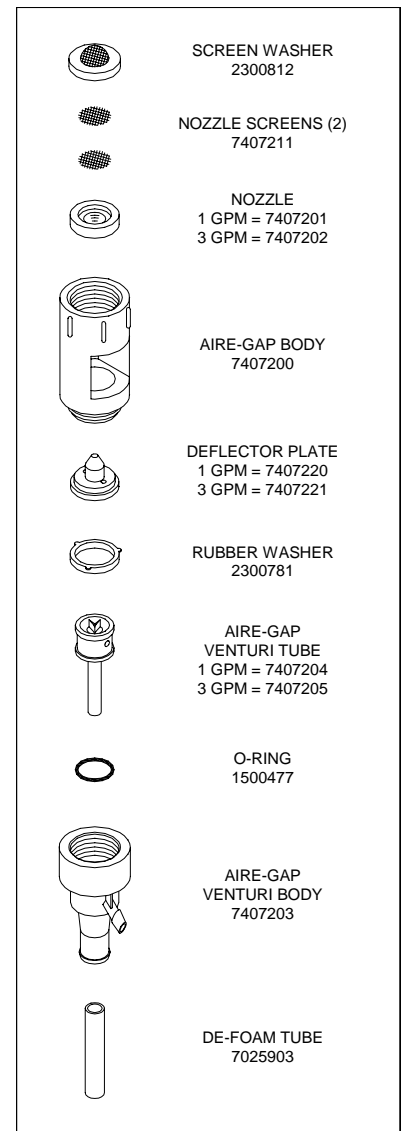

Figure 4
- (1) Disconnect tubing from venturi body.
- (2) Remove Aire-Gap assembly from water valve.
- (3) Remove existing nozzle, deflector plate, and venturi tube by disassembling the Aire-Gap — see Figure 4.
- (4) Reassemble the Aire-Gap using new nozzle, deflector plate, and venturi tube (for the desired flow rate). To avoid leakage, install the rubber washer with the 3 “ears” facing upwards. Hand-tighten the venturi body to the Aire-Gap body.
- (5) Thread Aire-Gap assembly back in place and hand-tighten.